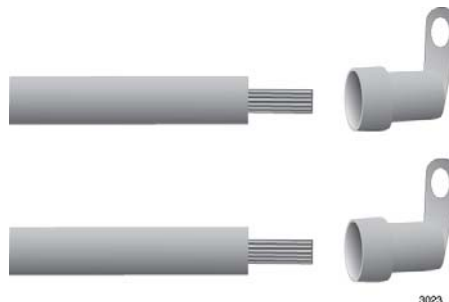

Figure 151. Attaching the Power Wires to the Right Angle Terminals
3. Insert the power wires into the right angle terminals included with the power supply and use a crimping tool to secure the wires to the terminals. See Figure 151,